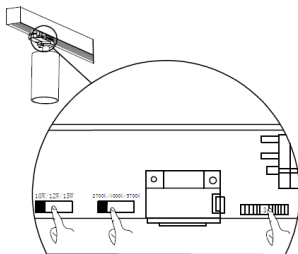

Fig. 3
- Select the wattage and CCT via switches, and turn circuit adjustment knob to correct circuit (1,2 or 3) for powering spotlight (Fig. 3)